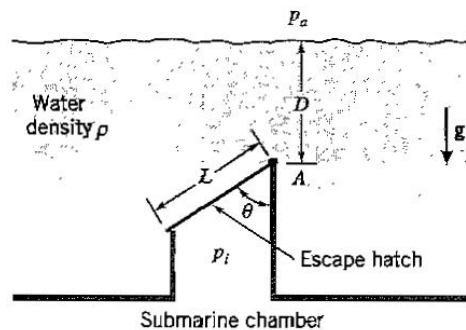

Figure P2.93
2.93 The rectangular submarine escape hatch shown in Figure P2.93 (of width W and length L) will open when the constant gauge pressure inside the chamber, p_i , exceeds a critical value p_{ic} . The hatch has negligible mass and it is hinged without friction at point A which is located at a depth D below the surface. Find p_{ic} in terms of W , L , D , ρ , g and θ .